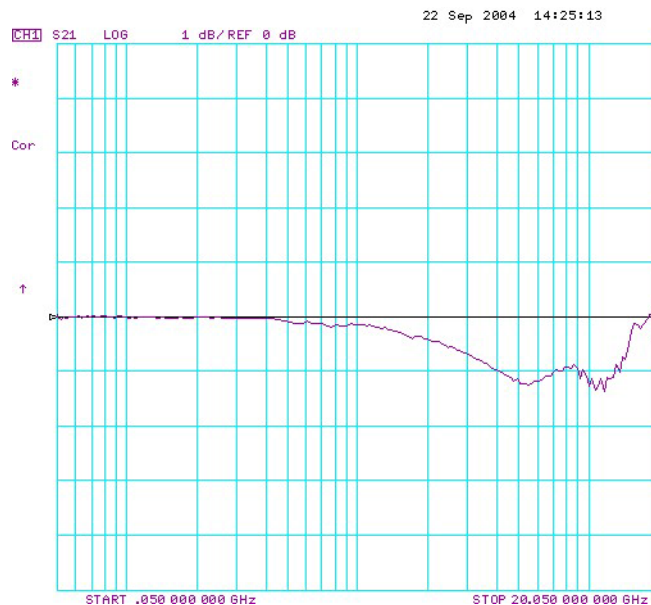

Figure 173 Typical V_{in} Waveform
- 36** The V_{in} waveform shown on screen should be similar to that shown in **Figure 173**.